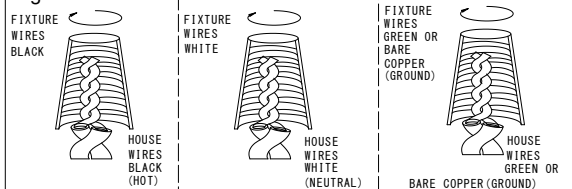

Fig. 3
7. To prevent moisture from entering the outlet box (A) (not supplied) and causing a short, use clear silicone sealant to outline the outside of fixture back plate where it meets the wall leaving a space at bottom to allow moisture a means to escape (Fig. 3)